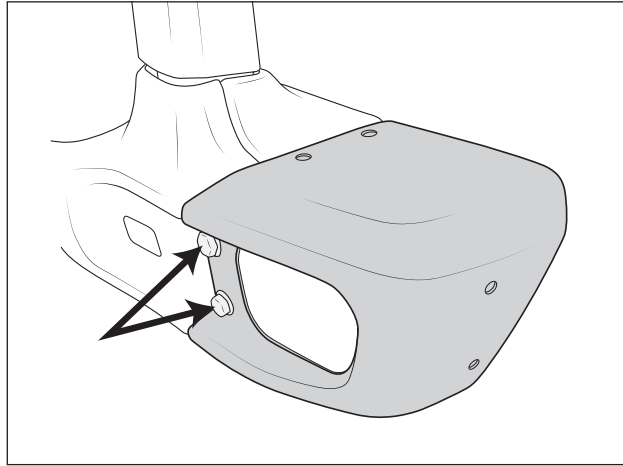

Figure 23
2. Carefully install corners over center section and loosely bolt in place with silver M12x35mm hex bolts and washers in the upper and center holes (next to fog light) (fig. 23). Do not install bolts in bottom holes yet. Middle bolt will pass through OEM frame reinforcement bracket.